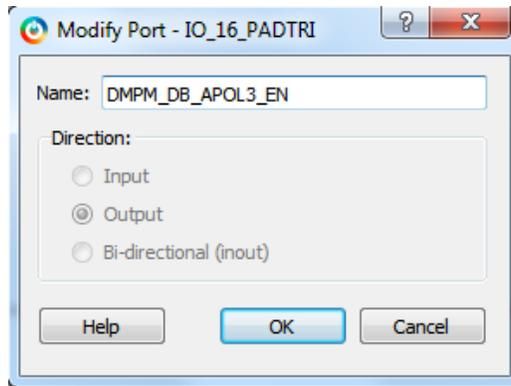

Figure 29 • Modify Port Dialog Box
- Enter the name of the pin as DMPM_DB_APOL3_EN as shown in Figure 29 and click OK.